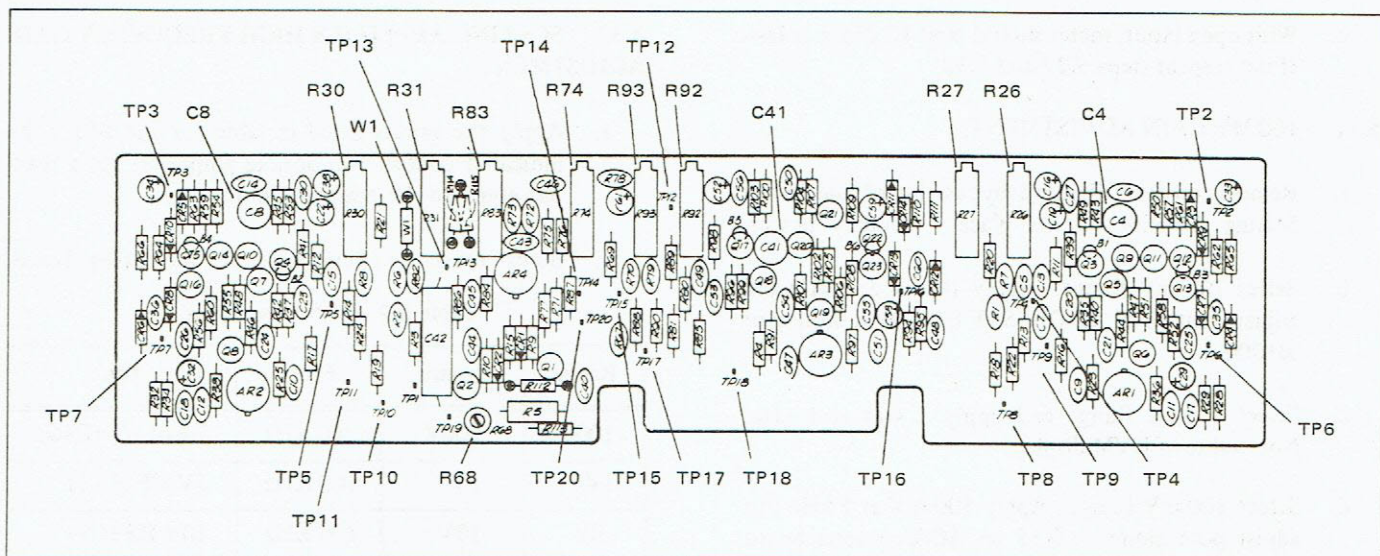

Figure 5.4 - Test Points - DIAC Converter
5.26 Remove Power. Remove shield, place AC converter on extender board (D.P.N. 403645), remove scaling amplifier and replace with Scaling Amplifier Bypass Board (D.P.N. 410617A). Reapply power. Refer to figure 5.4 for adjustment locations.
- Open jumper W-1 on AC converter (figure 5.4).